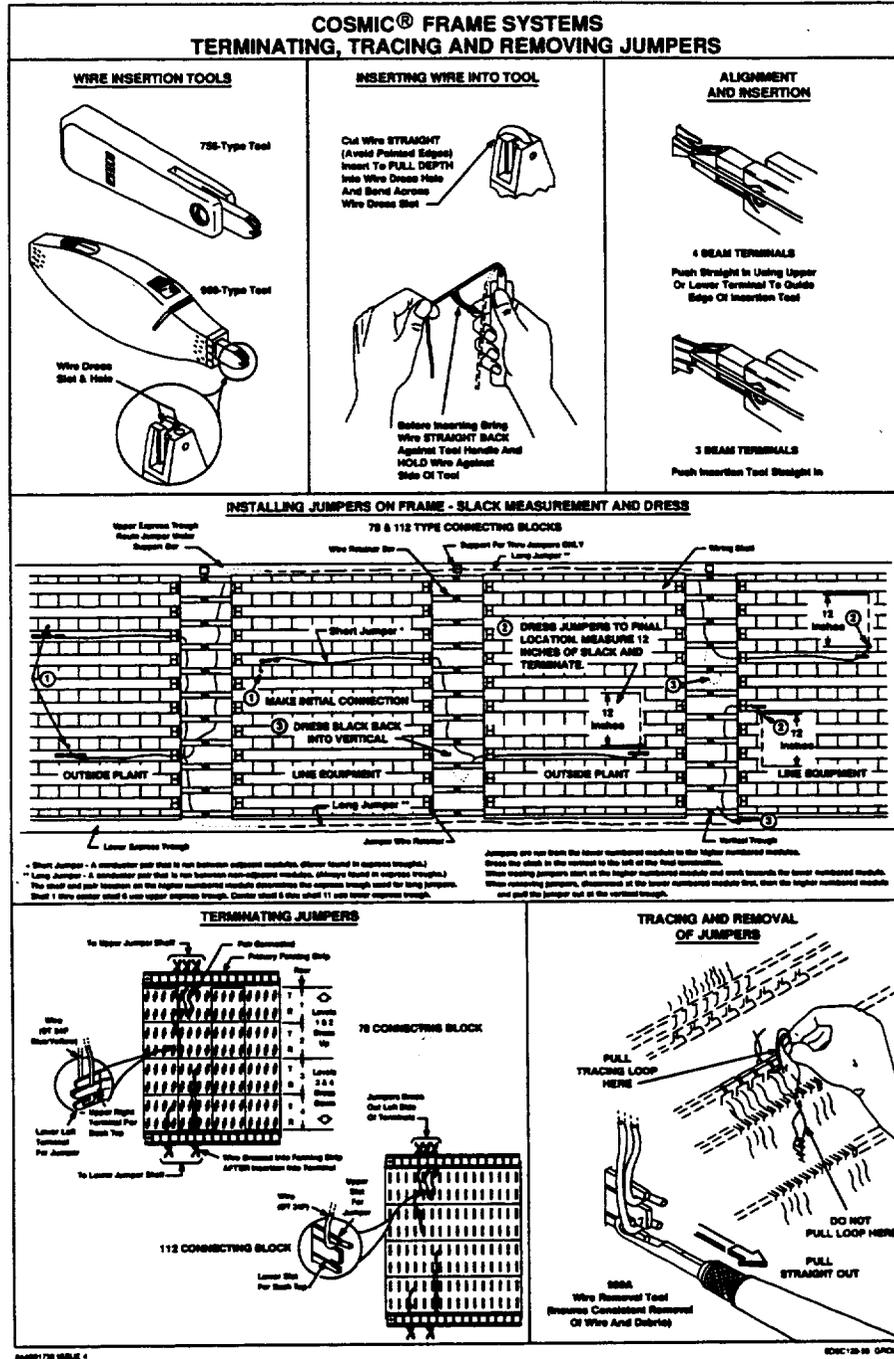

Figure 35. Frame Operations Decal—Cross-Connect Side (78 and 112 Blocks)
4.14 The cross-connect operation decal (Figure 35) describes the tools and procedures used for placing, removing, and tracing cross-connections. The decal is generally placed on the door nearer the front side of the frame lineup.